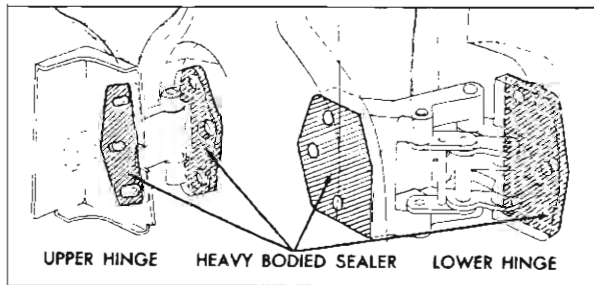

Fig. 3-38 Rear Door Hinge Sealer
2. Apply a coat of heavy-bodied sealer to attaching surfaces of hinge straps or corresponding surfaces of door or body (Fig. 3-38).